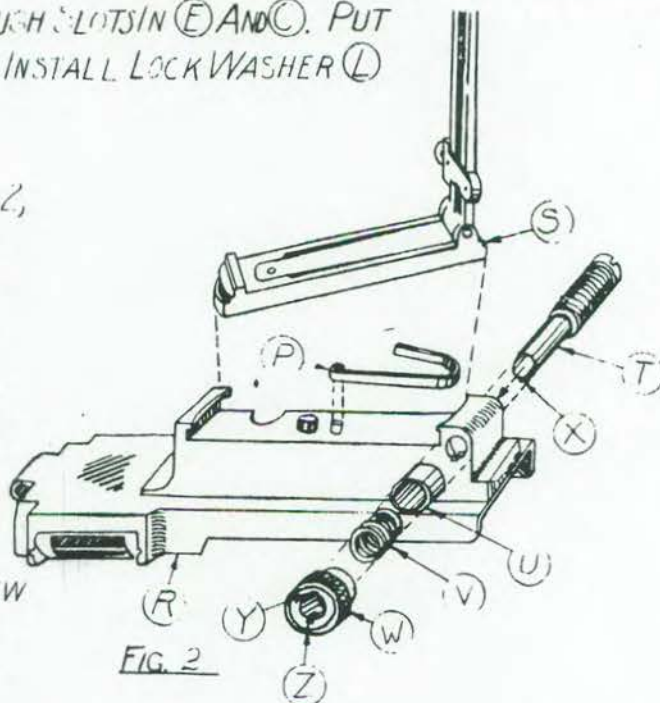

FIG. 2
- 6 PLACE REBOUND SPRING (P) FIG. 2, OVER STUD AND PLACE SIGHT (S) OVER SIGHT BASE PIVOT. PLACE WINDAGE SCREW (T) AND PUSH IN DIRECTION SHOWN BY ARROW. PUSH BASE (S) IN SAME DIRECTION AT SAME TIME. INSTALL COLLAR (U) AND SPRING (V). PLACE KNOB (W) OVER SCREW SO KEY (X) FITS INTO KEYWAY (Y). PUSH SCREW (T) THROUGH (W) SO (X) IS CLEAR OF (Y). TURN (W) ONE-HALF TURN, ALLOWING KEY (X) TO ENTER KEYWAY (Z).